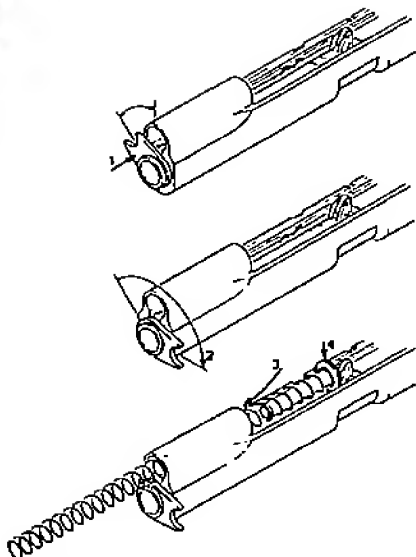

FIGURE 9 – INSTALLING BARREL BUSHING AND RECOIL SPRING/S
2. (See Figure 9). Place barrel bushing over muzzle of barrel and into slide until it is flush with the face of the slide, (STEP 1). Turn bushing clockwise as far as it will go. (STEP 2).